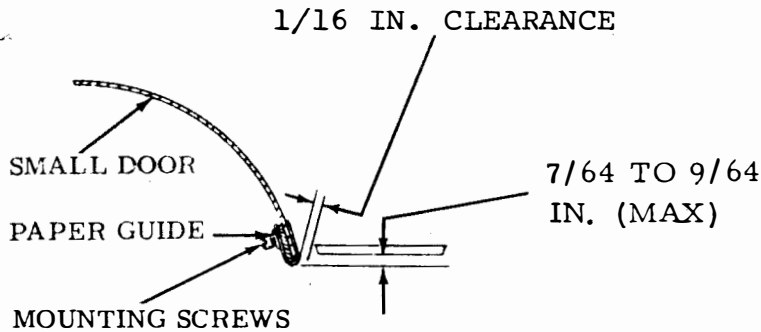

Figure 6-351. Paper Guide and Window
- (1) Refer to Figure 6-351.
- (2) When right top door is closed, bottom edge of paper guide should be 7/64 to 9/64 inch maximum below bottom edge of window surface in right front door.
(1) Refer to Figure 6-351.
(2) Paper guide on right front door should clear window by 1/16 inch when door is opened or closed.